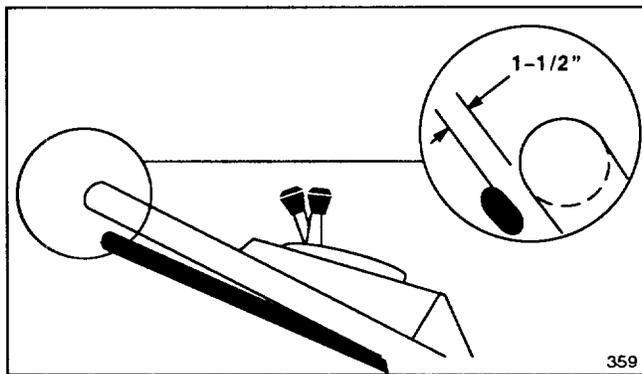

Figure 18
2. CHECK ADJUSTMENT—Adjustment is correct when rear wheels stop turning and control bar is about 1-1/2 inches from handle (Fig. 18).